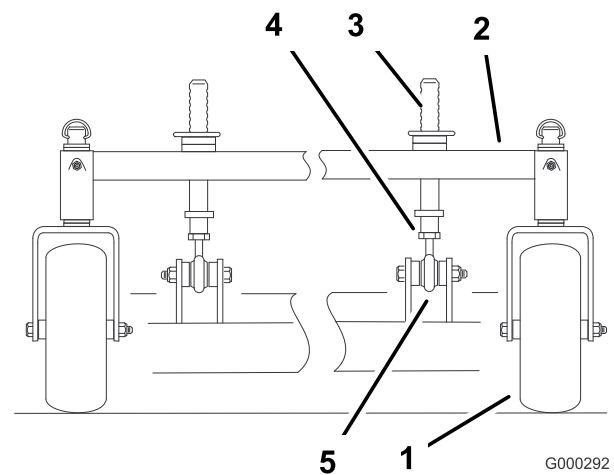

Figure 59
To change the front-to-rear pitch, the front height-of-cut posts can be adjusted (Figure 59).
To raise the front of the deck, loosen jam nut and rotate the front pin clockwise (Figure 59).
To lower the front of the deck, loosen jam nut and rotate the front pin counter clockwise (Figure 59).
2. Measure at C and D locations (Figure 59) from a level surface to the cutting edge of the blades.
4. Tighten the jam nuts (Figure 59).